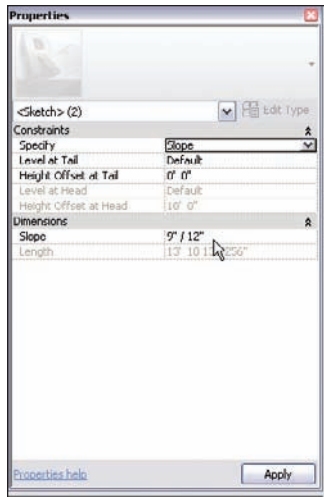

FIGURE 7.63 Changing the values of the slope arrows
8. Under Dimensions, keep the slope at 9" / 12" (see Figure 7.63).